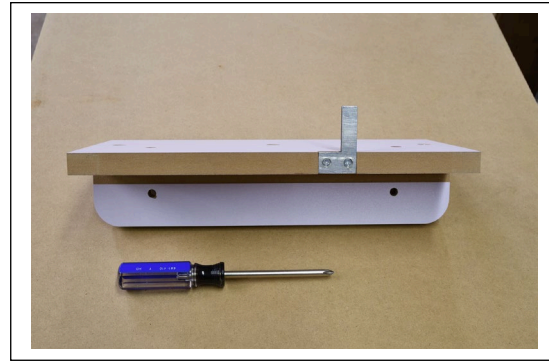

fig. 2
2. Choose the guide pin (C, D, or E) for the width of box joints that you will be making and secure it to the bottom edge of the vertical face (A) using two of the M4 machine screws (H). The pin should be placed with the extension toward the short edge of the vertical fence and protruding outward from the vertical fence (A) (see fig. 2).